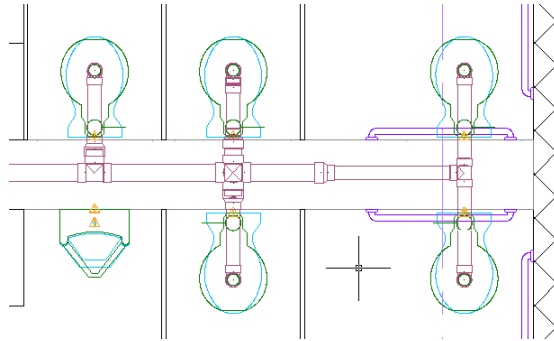

Figure 6.68
61. Click on the sanitary connection of the water closet (see Figure 6.68).